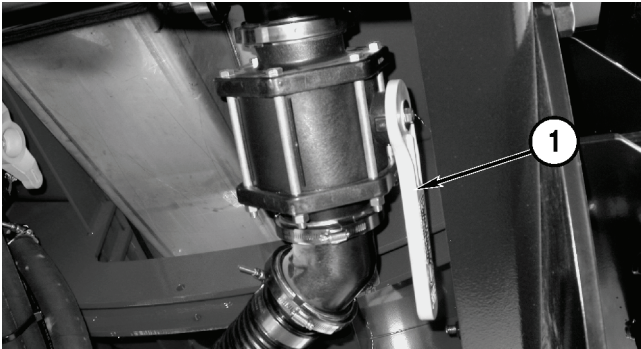

Figure 4-12
1. Open the sump valve (**Figure 4-12, 1**) on the underside of the product tank.